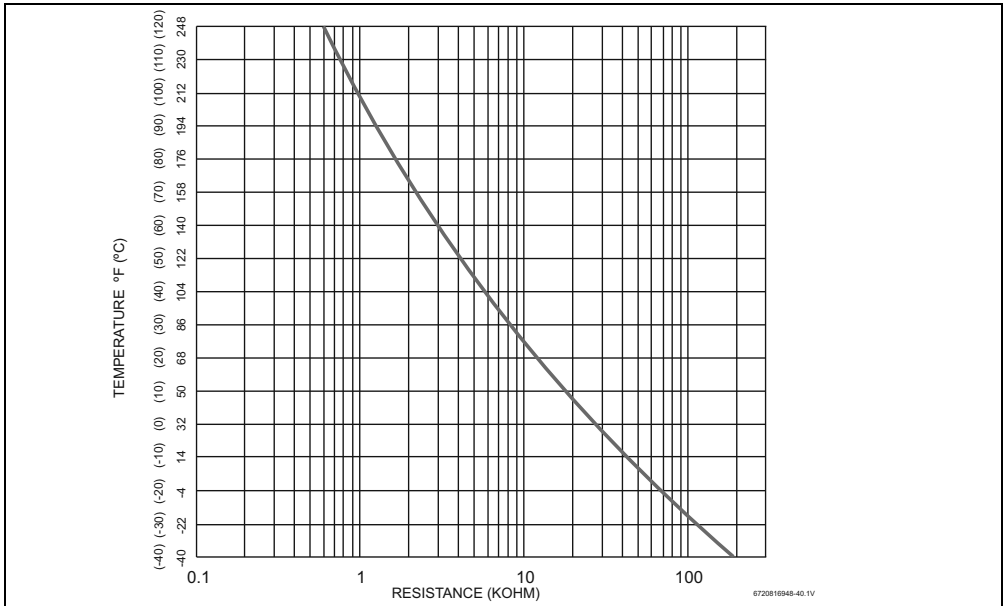

Fig. 69 Inlet, outlet and heat exchanger water temperature sensors characteristics
- 2) see temperature resistance charts in fig. 69 and 70.